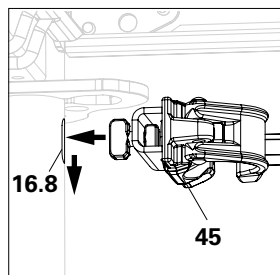

Fig. A7.01
1. Insert the Wall Tie Coupler EWC (45) into the slot (16.8) of the Easy Frame EVF or console bracket and turn it 90° downwards. Possible for single-standard and multi-standard wall ties.
- The wall tie coupler is now installed. (Fig. A7.01 – A7.01b)